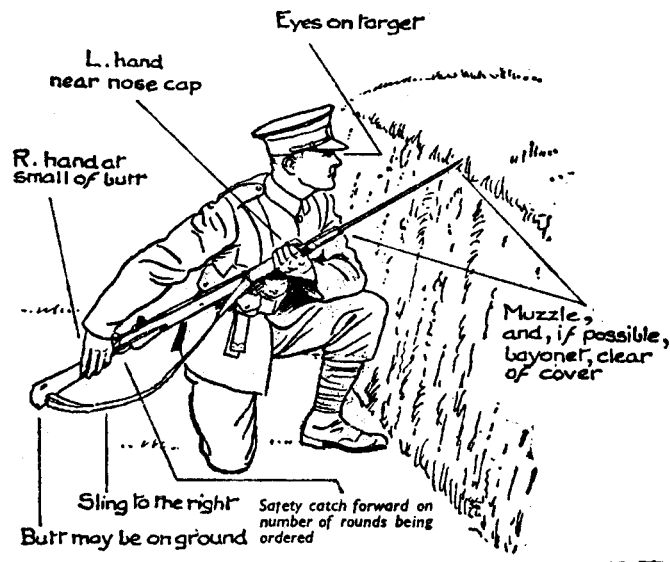

FIG. 28
- ii. *Sight setting and position of readiness.*—Position of readiness (see Fig. 28) will be adopted whenever a range is ordered or on the order "Stop." On the order "... hundred" being given, set sights in most convenient way.